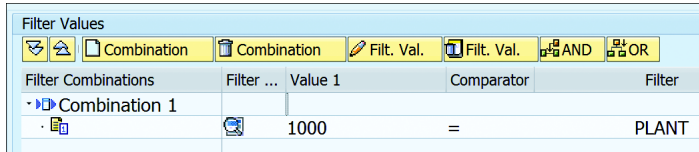

Figure 20.47 Filter Values
- Once the filter value is set, the system will display the filter (see Figure 20.47). You can click on the AND or OR button to add multiple combinations.